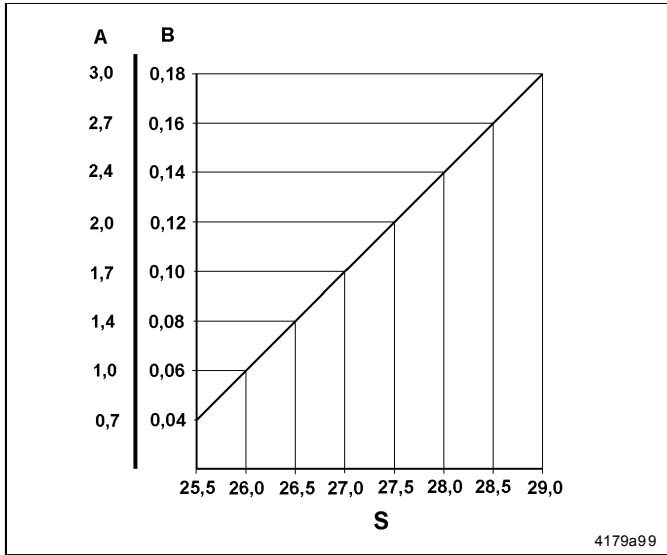

Fig. 4-3 Lubrication output diagram
- adjusting measure " $S$ " (fig. 4-3) ..... 28 mm
- Determine adjusting measure S (including deviation) for the required output volume by means of the output diagram (fig. 4-3).